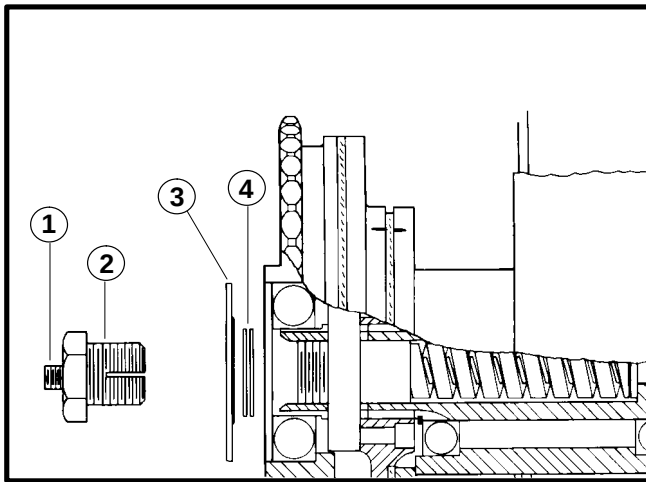

FIGURE 34
5. If adjustment is necessary, loosen the lock screw in the end bolt and remove end bolt, washer and shim pack. See Figure 34.